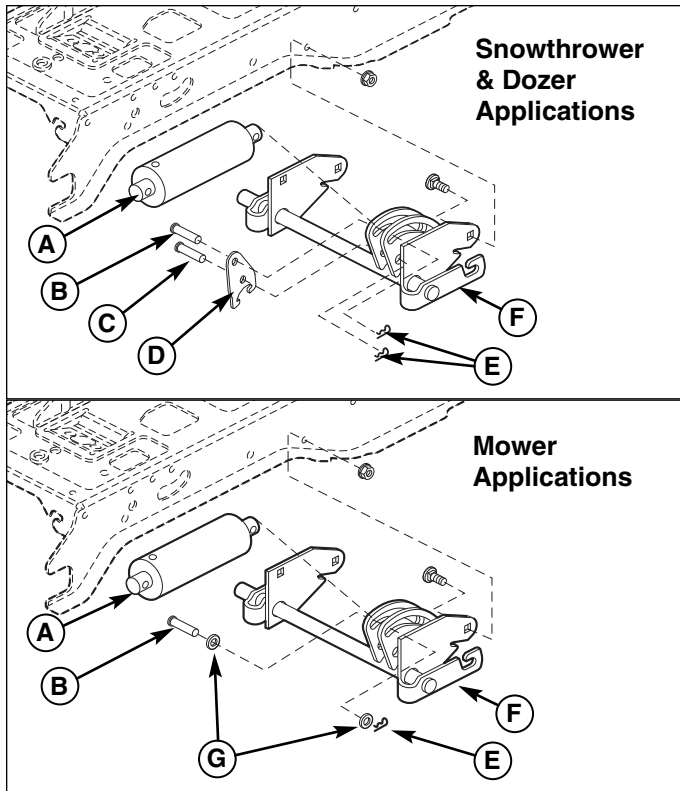

Figure 28. Lift Lock Plate - Hydraulic Lift Models
When using a snowthrower or dozer, the downward pressure lock plate (D, Figure 28) and an additional pin (C) is installed. These parts are included with the attachment. Note that the washers (G) are not used with the lock plate.